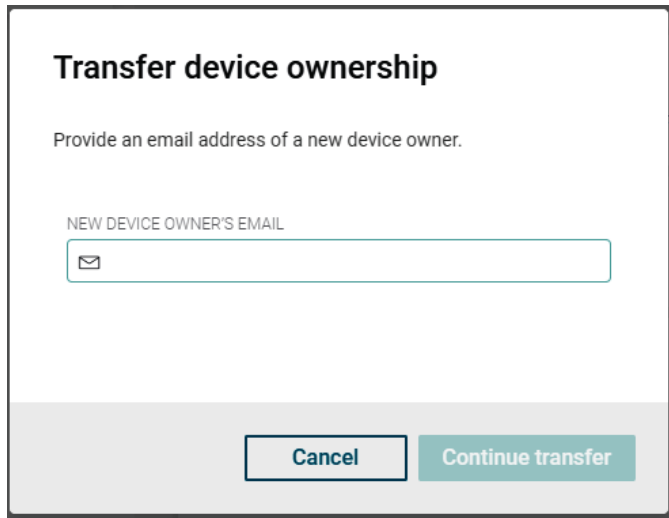

Figure 66. Transferring Device Ownership
5. The “Transfer device ownership” window will appear, type the New Device Owner’s e-mail. Click on “Continue transfer” when filled. See **Figure 66**.